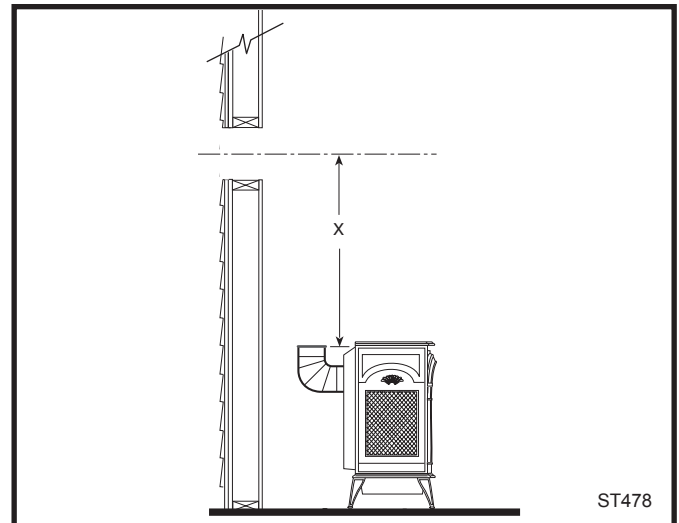

Fig. 25 Determine the vertical pipe length.
4. If necessary, measure to determine the vertical length (X) of pipe required from the first (transition) elbow to the wall cutout centerline, including a 2" overlap at the joint. (Fig. 25) Use a hacksaw or tin snips to trim the pipe as needed.